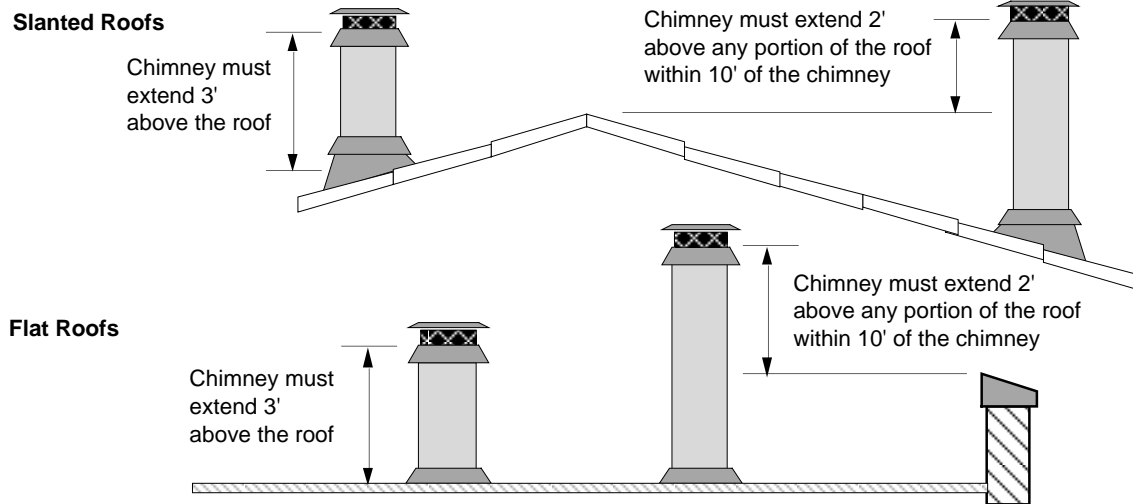

Figure 5
- Must terminate at least 3' (914mm) above the roof and at least 2' (610mm) above any portion of the roof within 10' (3.048M) (see Figure 5)